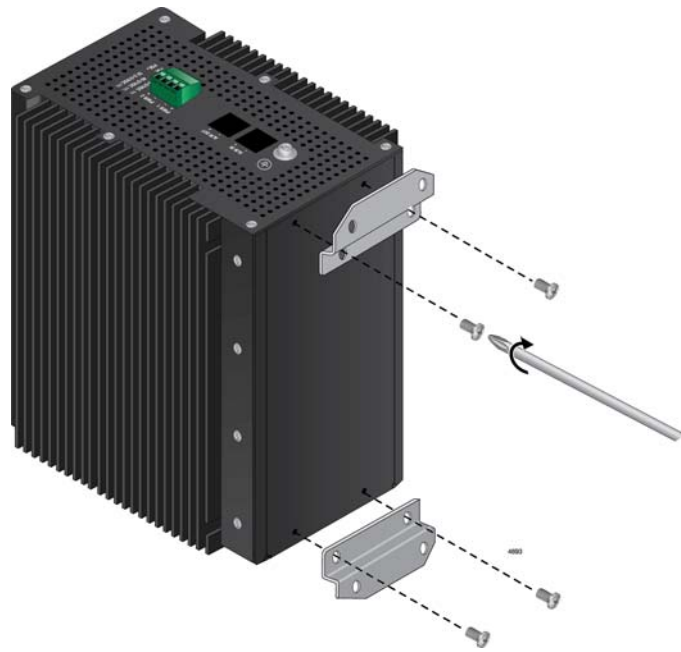

Figure 25. Installing the Wall Brackets on the Switch
3. Install the two wall brackets to the back panel of the switch, with the four screws included with the unit. Refer to Figure 25.
3. Install the two brackets that come with the switch to the back panel of the unit. Refer to Figure 25 on page 77.